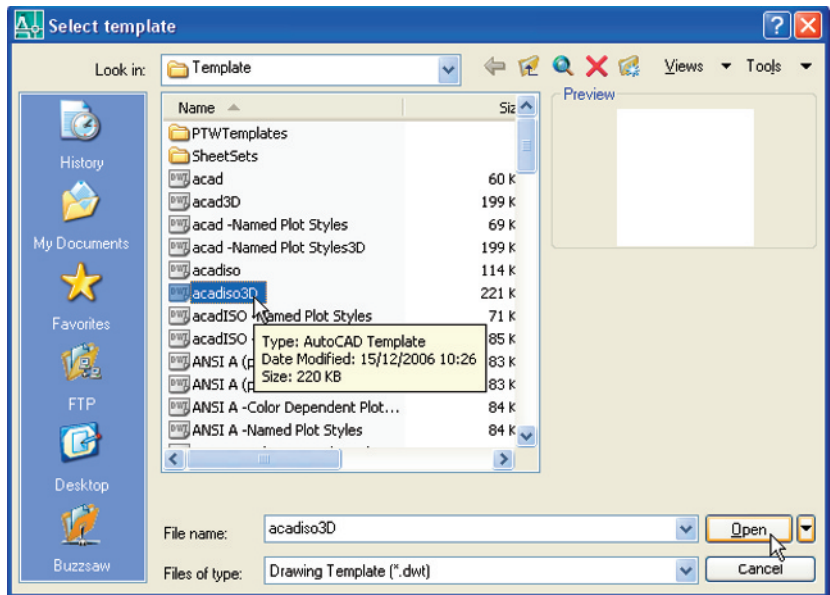

Fig. 16.1 Selecting **acadiso3D** from the **Select template** dialog
1. *Click New...* in the **File** drop-down menu, followed by a *click* on **acadiso3D** in the file list (Fig. 16.1).